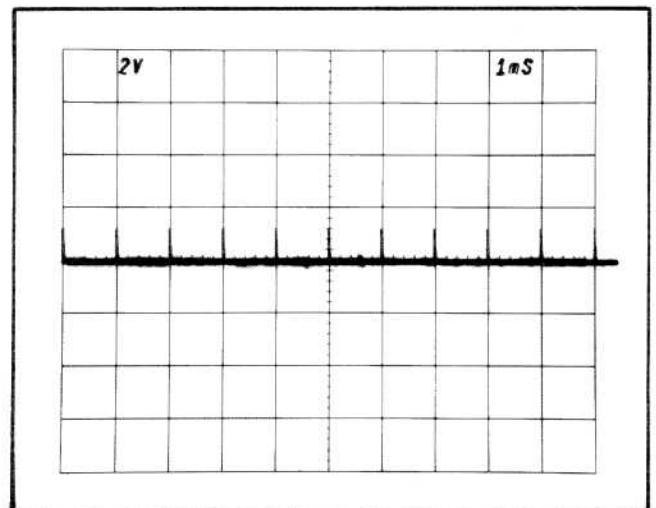

Fig. 5-7. CRT display showing SWP CAL adjustment correctly set.
d. CHECK—CRT display for one 1 ms marker for each division between the second and tenth vertical lines (see Fig. 5-7).